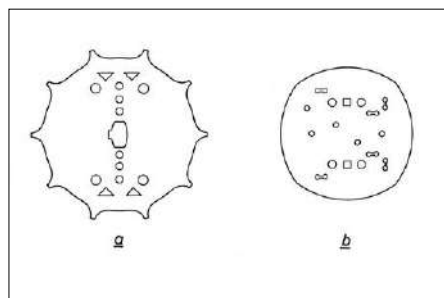

Figure 4. Old form (a; left) and new form (b; right) of the mica support plates. With the new shape there is less flaking. Source: [1].
**Short-circuits** between two electrodes (only 100  $\mu\text{m}$  and even 50  $\mu\text{m}$  apart) are easy to detect in production and rarely occur 'outside the factory gate'. A much more serious problem are conductive compounds, which are caused by loose particles in the tube. These can exhibit transition resistances that not only vary widely from the order of  $10^7$  to 1 ohm, but also intermittent occurrences, which makes it very difficult to detect them. Dust-free assembly is therefore recommended. Likewise, it is absolutely necessary to avoid loose particles in the tube that arise during manufacture, such as droplets of metal that have splashed away during welding, chipped cathode material and flaked off pieces of mica (these become conductive in the long run, if atomized cathode material deposits on them). Sprayed metal indicates incorrect adjustment of the welding machine; crumbled cathode material indicates careless fabrication of the cathode. Mica washers of a new shape (**Figure 4, right**) blister much less than mica in the old shape (**Figure 4, left**).